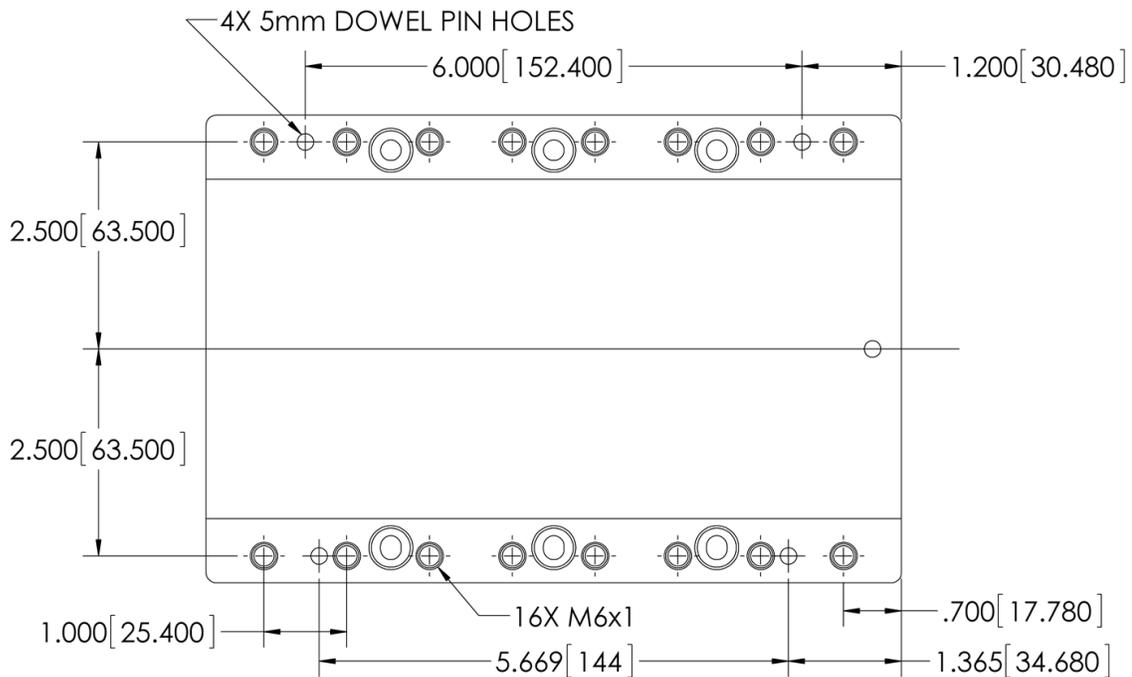

Figure 1: Carriage Bolt Hole Pattern
The bolt pattern on the Carriage has been designed to facilitate process equipment installation. The Carriage has (16) sixteen M6x1 mounting holes with a depth of 0.40 inch (10 mm) to provide secure attachment points. The mounting holes are spaced 5 inches (127 mm) across and on 1 inch (25.4 mm) centers along the length of the Carriage. (See Figure 1) The Carriage also has (4) four 5mm dowel pin holes to facilitate alignment. (See Figure 1 for location) These dowel pin holes are oversized to allow the pins to be glued into place using Loctite 609, or equivalent. **Only utilize 4 of the M6x1 mounting holes; using more than 4 may cause warping of the carriage.**